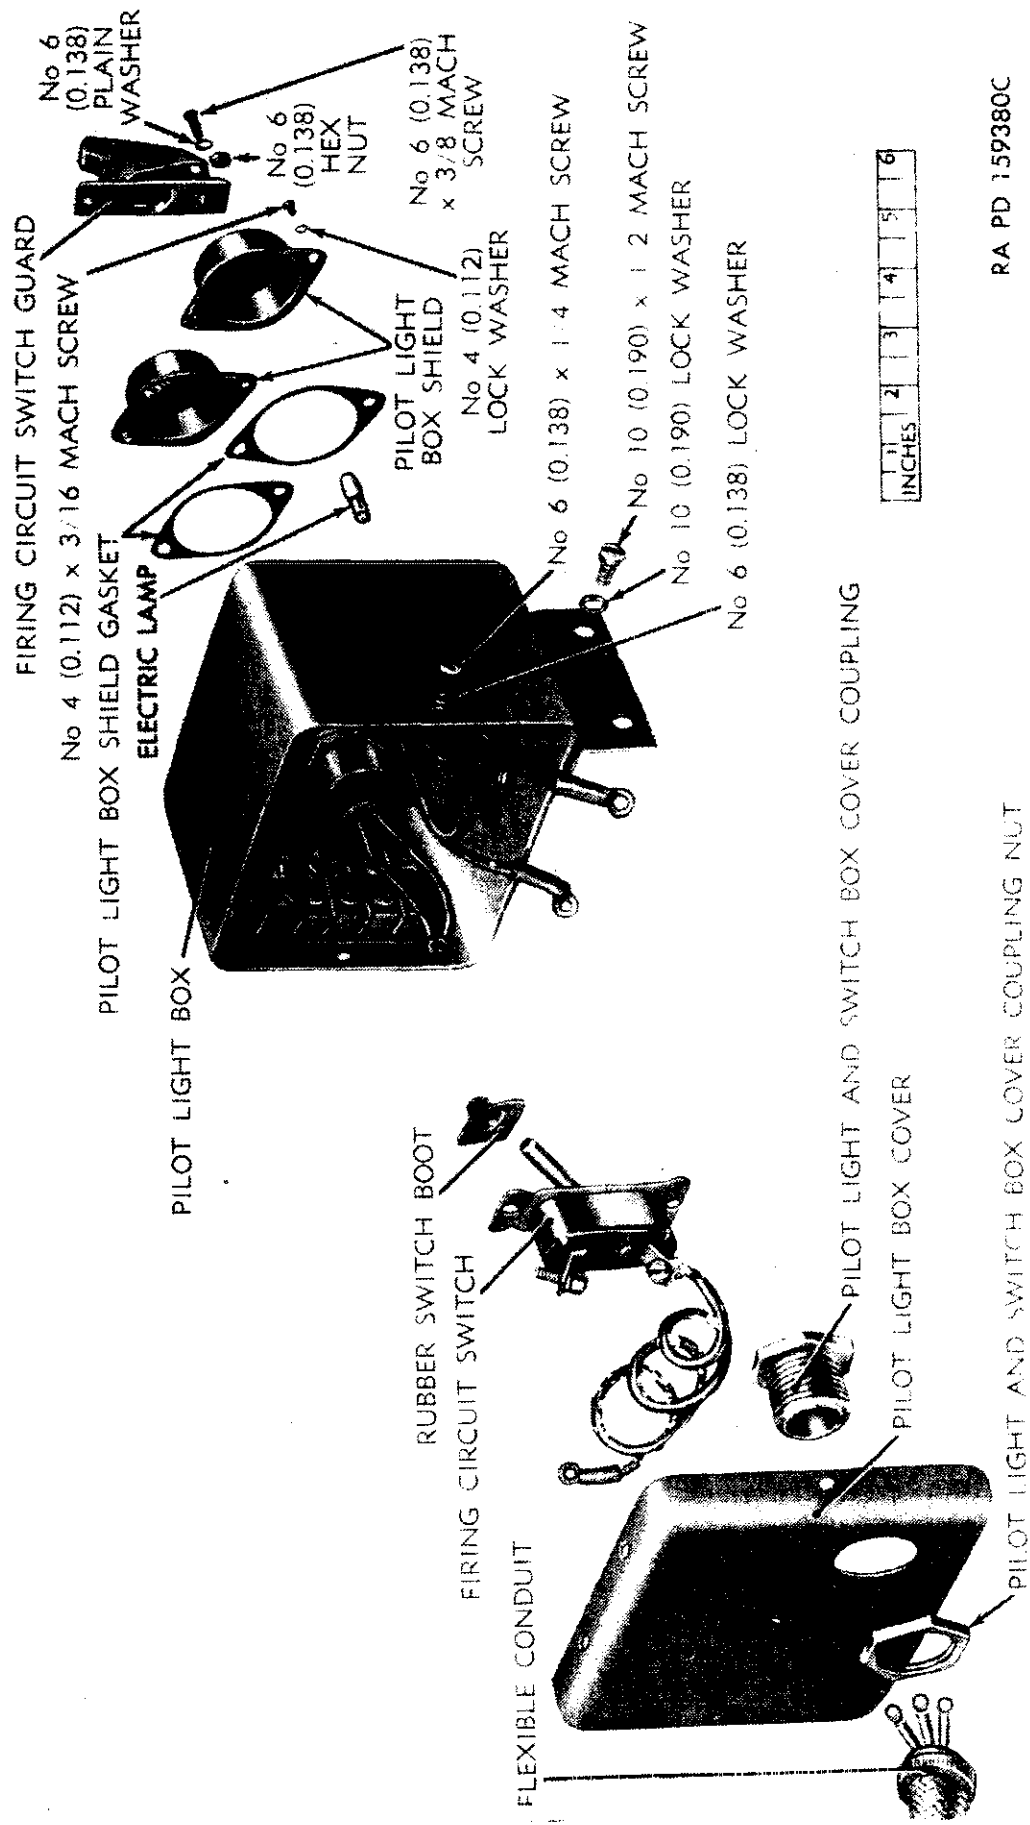
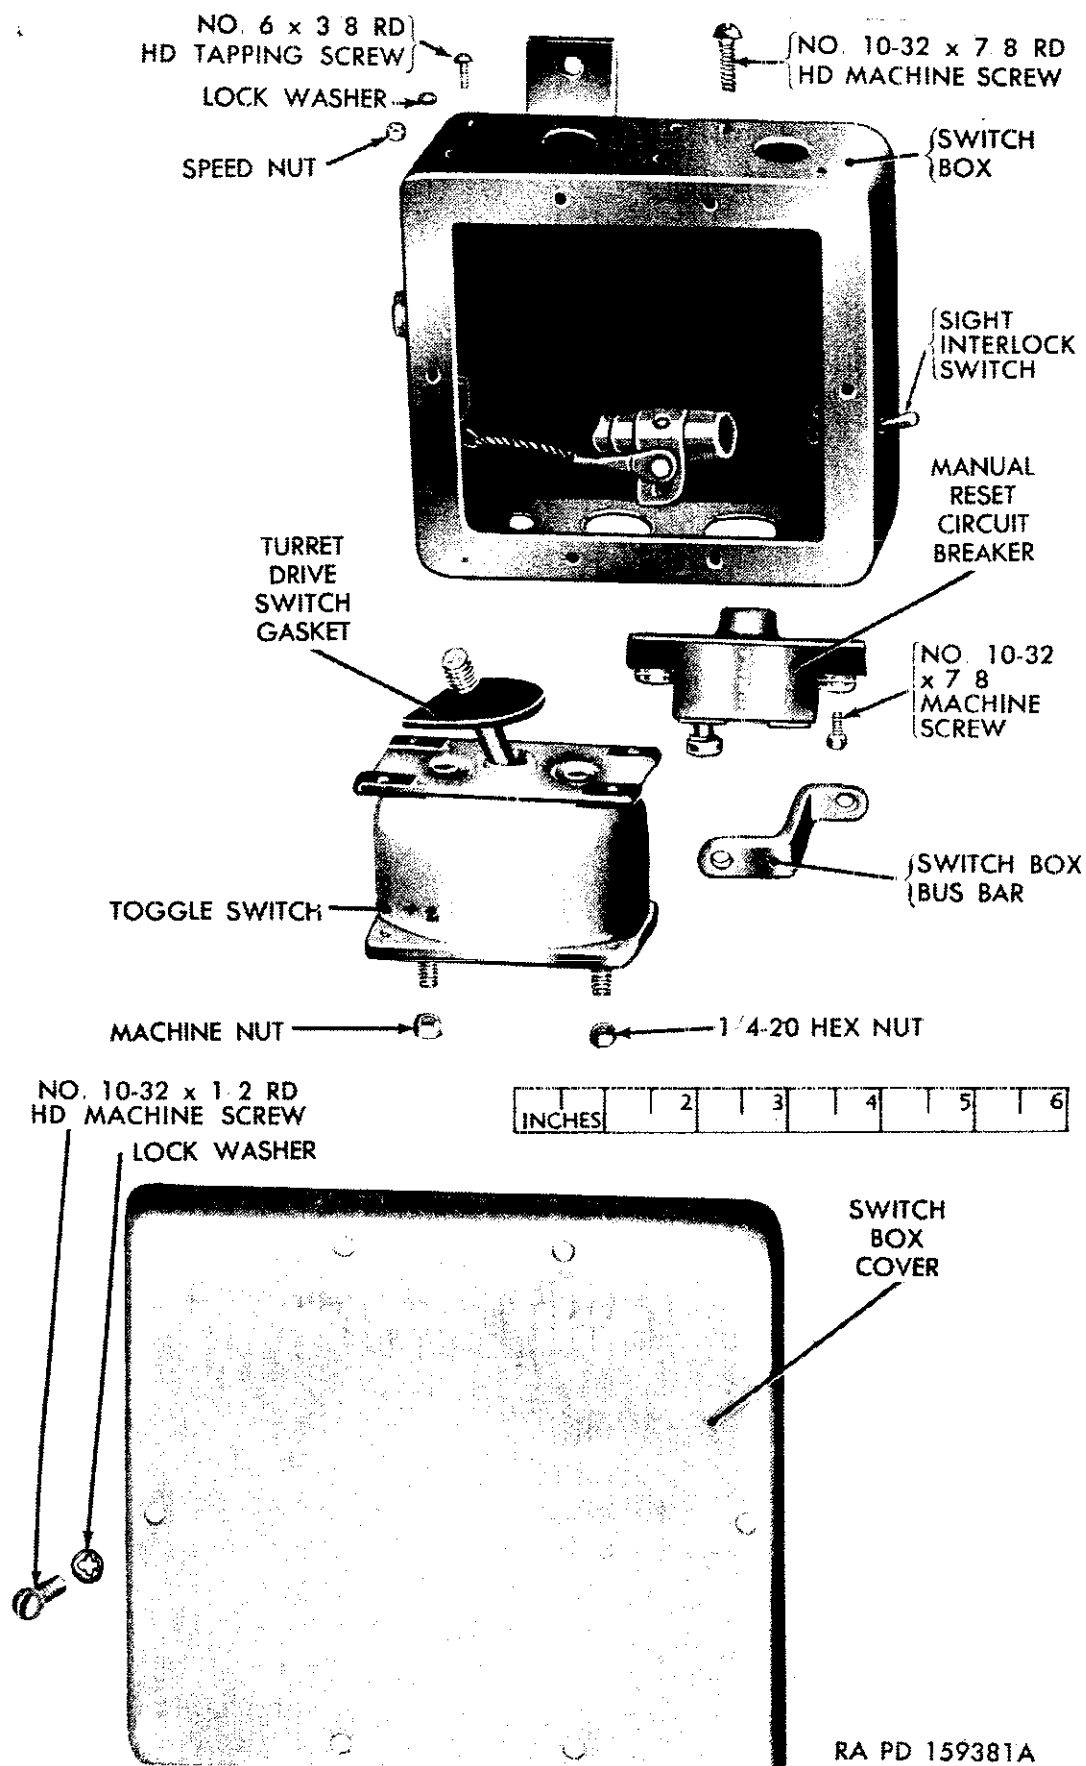
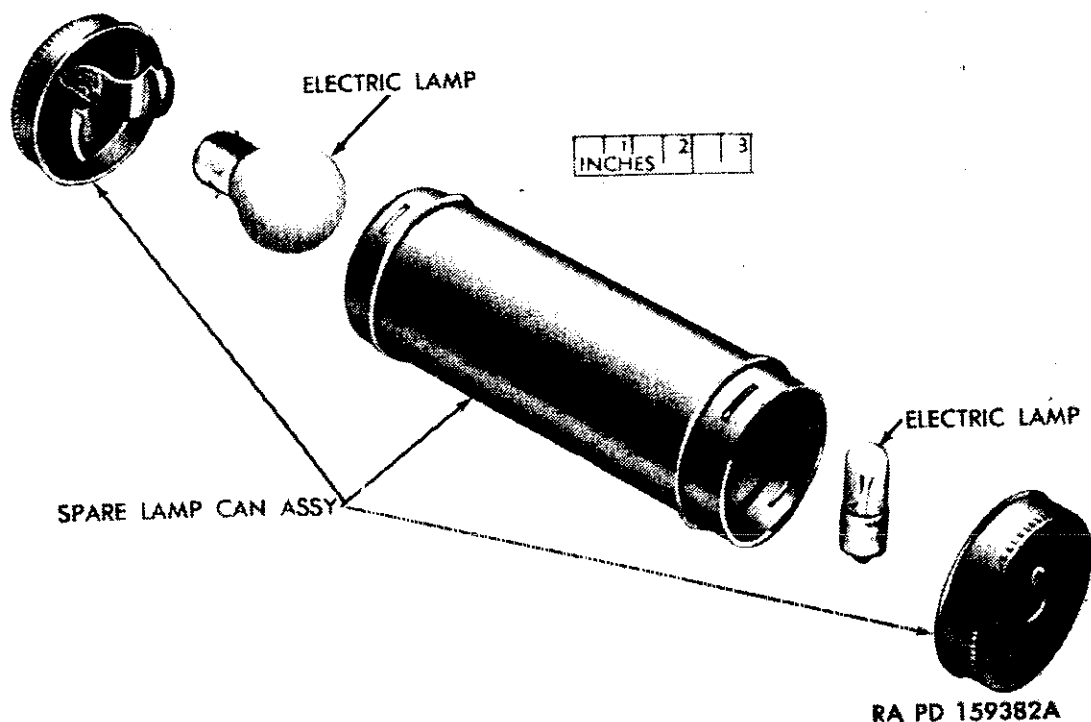

Figure 43. Pilot light box assembly—exploded view
Figure 44. Switch box assembly—partial exploded view.
Figure 45. Spare lamp can assembly—exploded view.
- (a) Unscrew and remove two screws and lock washers (fig. 43) which secure pilot light box shield to pilot light box.
- (1) Unscrew and remove six screws and lock washers that secure the switch box cover to the switch box (fig. 44). Remove the cover.
- (2) Turn off nut that secures the bus bar to the toggle switch.
- (3) Unscrew and remove screw that secures the bus bar to the manual reset circuit breaker, and remove and tag the lead wire that runs from circuit breaker to sight interlock switch. Remove bus bar.
- (4) Turn off nut from the left terminal of toggle switch. Remove and tag all wire leads.
- (5) From top of switch box, unscrew four tapping screws from four speed nuts which secure toggle switch to switch box. Remove screws, washers, and nuts. Remove toggle switch.
- (2) Twist off end of can and remove lamp required (fig. 45).
- (3) Spare lamps for the pilot light box and reflex sight are carried in these cans for ready replacement.
- (1) *Firing circuit light (fig. 43).*
- (2) *Firing circuit switch assembly.*
*b. Switch Box Assembly (fig. 44).*
- (1) Connect bus bar to circuit breaker with the No. 10 machine screw. Connect lead wire from sight interlock switch to circuit breaker. Place reset circuit breaker in switch box and secure with two No. 10-32NF x  $\frac{7}{8}$  round-head machine screws.
- (2) Connect leads to toggle switch terminal and fasten  $\frac{1}{4}$ -inch hex nut. Connect bus bar to toggle switch terminal.
- (3) Fasten toggle switch to switch box with four No. 6 x  $\frac{3}{8}$  round-head tapping screws.
- (4) Secure switch box cover to switch box using six No. 10 x  $\frac{1}{2}$  round-head machine screws and lock washers.
*c. Spare Lamp Can Assembly (fig. 45).*
- (1) Replace any spare lamps used in can.